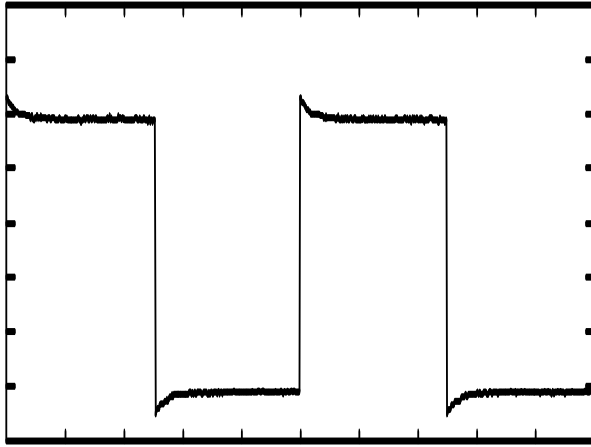

Figure 5 : Probe incorrectly compensated in low frequency
- Connect the PROBE output (33) to CH1 input (34) by using a 1/1 or 1/10 measurement probe.
- CH1 sensitivity (4) or CH2 (10): 0.1 V/div. (1/1); 10 mV/div. (1/10)
- Sweep speed (20): 0.2 ms/div.
- Trigger source (21) or (22): CH1 or CH2
- Trigger mode (19) : AUTO
- If necessary, adjust vertically using the POSITION (6) or (11) control and stabilise the trace using the potentiometer LEVEL (15).
- Adjust the low-frequency compensation of the probe so that the impulse plateau is horizontal. See figures 5 and 6.